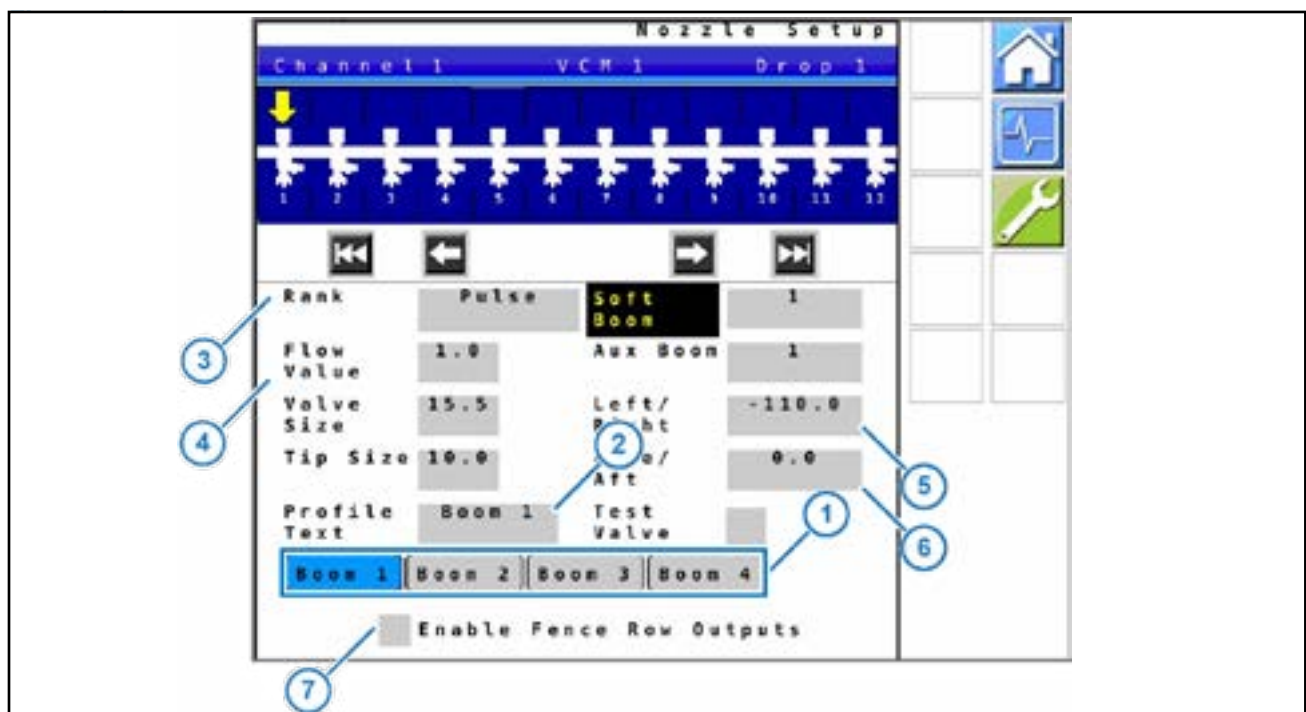

Figure 22: Profile Names on Nozzle Setup Screen
3. Select the box (Figure 22, Item 2) next to **Profile Text**.
6. The **Nozzle Rank** (Figure 22, Item 3) can be changed from the default **Pulse** setting to accommodate different operational requirements. Nozzles must be selected individually using the arrows to change their respective behavior. See Table 4 on Page 43 for Rank explanations.
7. The **Flow Value** (Figure 22, Item 4) adjusts the amount of flow from that nozzle to increase/decrease volume applied.
8. The **Left/Right** (Figure 22, Item 4) number indicates the selected nozzle's location left or right from the center of the boom. Nozzles to the left of center are negative values while nozzles to the right of center are positive values.
9. The **Fore/Aft** (Figure 22, Item 6) number indicates the nozzle location from the primary spray boom. This is typically left as the default 0 value. However, front-mounted boom sprayers may utilize this for rear boom application.
10. The **Enable Fence Row Outputs Checkbox** (Figure 22, Item 7) is used to enable 12V fence row outputs on Pin 6 of the VCM ports 6 & 8. These are controlled by on-screen switches located on the Home screen.